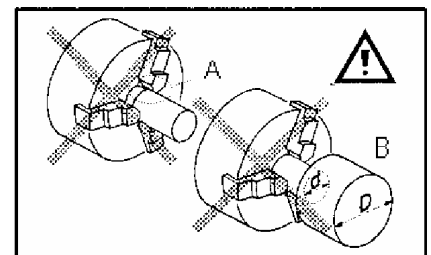

Fig 13
Avoid short clamping contact (A, Fig 13) or clamping on a minor part diameter (B).